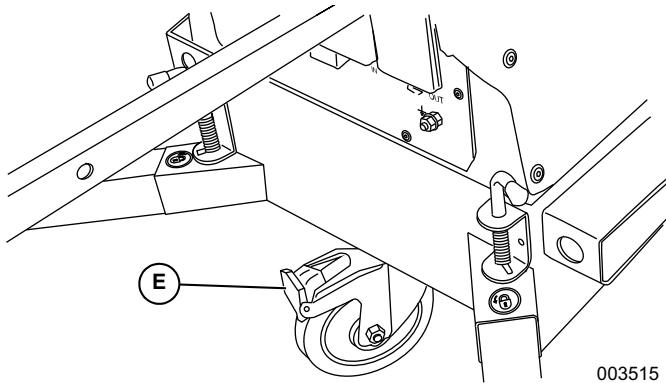

Figure 2-8. Swiveling Caster
See Figure 2-8. The chassis is equipped with a swiveling caster at the rear. Step on the brake (E) to lock the caster and prevent the wheel from rotating. Raise the brake to unlock the caster.